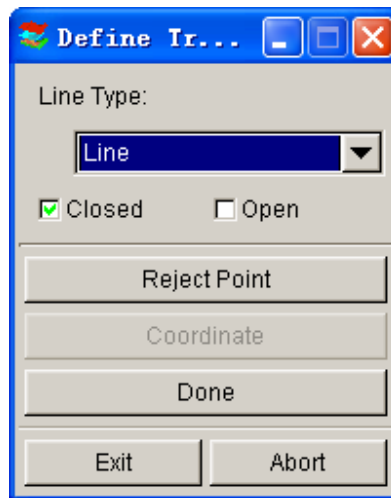

Figure 5.2.5 Define Trim Line
4. DEFINE TRIM LINE is displayed. See Figure 5.2.5